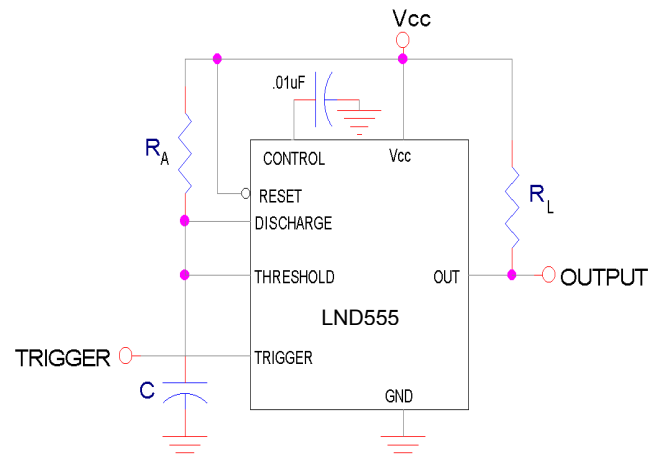

Figure 2 : Circuit for Monostable Operation
4. Values specified are for a device in a monostable circuit similar to Figure.2, with component values as follow: $R_A=2\text{K}\Omega$ to $100\text{K}\Omega$, $C=0.1\mu\text{F}$.